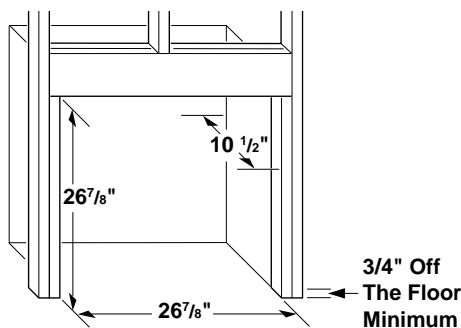
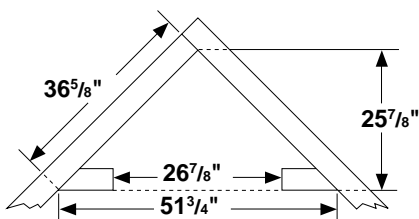

Figure 5 - Rough Opening for Installing in Wall
Figure 6 - Rough Opening for Installing in Corner
1. Frame in rough opening. Use dimensions shown in Figure 5, page 8, for the rough opening. If installing in a corner, use dimensions shown in Figure 6, page 8, for the rough opening. The height is 26 1/8" which is the same as the wall opening above.